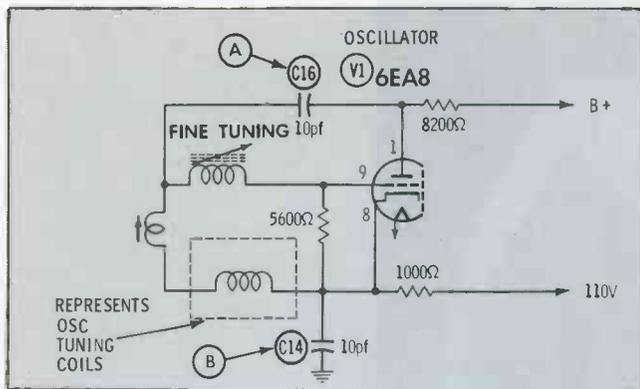

Fig. 7. Defective C16 changes VHF oscillator frequency.
We've found the following trouble in several RCA CTC12, 15, and 16 color chassis. The trouble is usually attributed to the local oscillator in the VHF tuner. Various conditions of improper tracking may accompany the symptoms: picture without sound; sound without picture; sound clear on one channel, station picture on another; or vice versa. In the following case, all stations were received one channel lower than normal. A simplified schematic of the VHF oscillator circuit is shown in Fig. 7.
Step 4: Check for poor connections by using insulated tool, pressing on and around components in oscillator stage (Fig. 7).